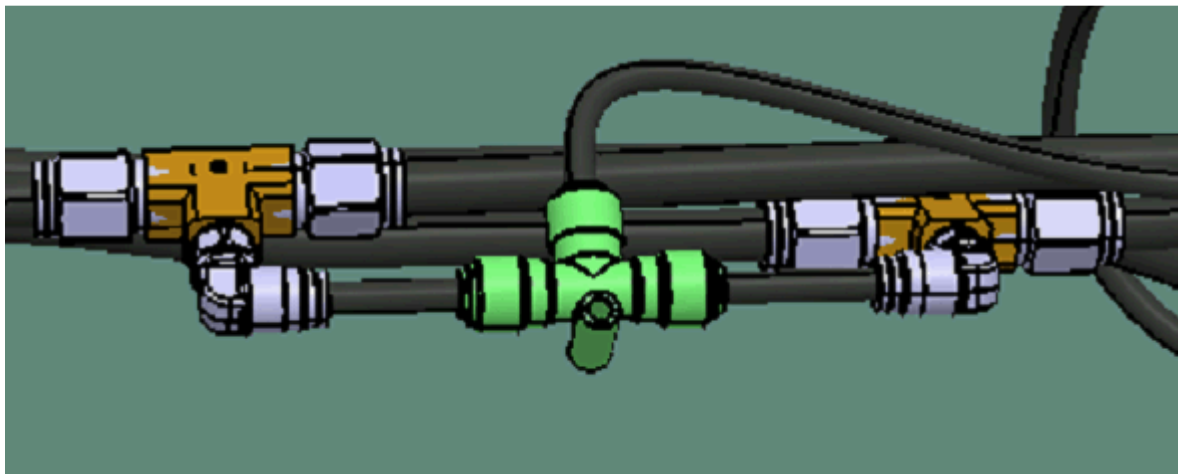

Figure-5
*Remove the all three Tee connectors shown in Figure-5
(The ones previously disassembled . Shown in Figure-5)